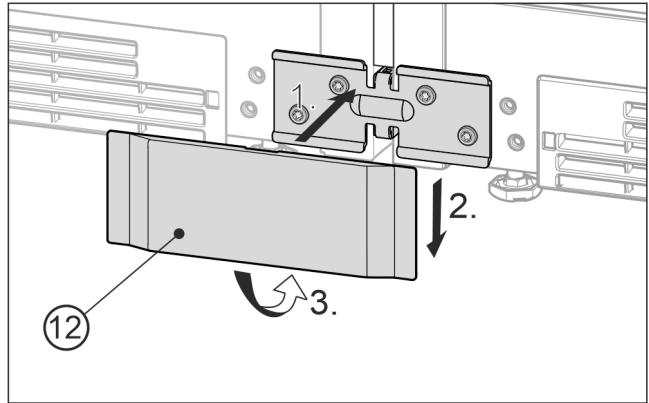

Fig. 25 Example illustration
- Place the bottom cover Fig. 25 (12) onto the bracket from the front Fig. 25 (1), slide it down Fig. 25 (2) and snap it in at the bottom Fig. 25 (3).